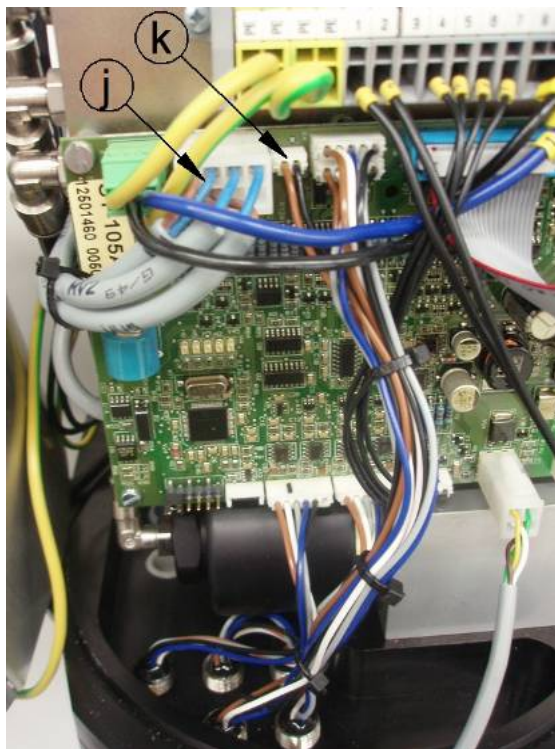

Figure 17 Removing the wiring set
- 7 Detach connectors (j) and (k) from the circuit board, see Figure 17. Remove the low level switch's M12 connector and the detached wiring set from connection D at the bottom of the SKF Maxilube pumping center.
- 8 Detach solenoid valve plugs MV1, MV2 and MV3, see Figure 17. Remove the detached wiring set.